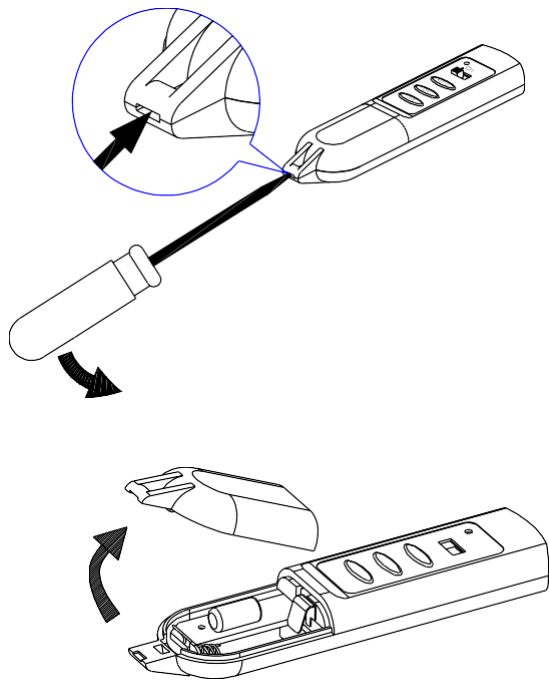

FIGURE 12
- (1) Use a flat blade screwdriver to gently detach the battery cover from the cabinet. (FIGURE 12)